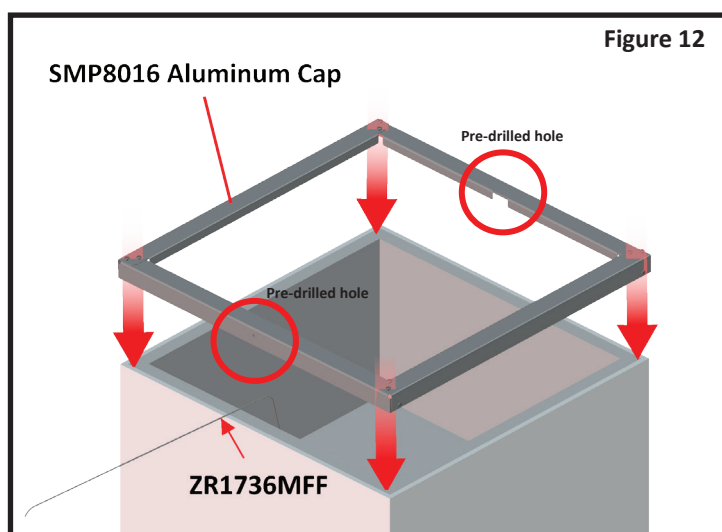

Figure 12
6. Flip the Chimney Flue upside down so the assembled Damper is *toward the top* and the *top of the Chimney Flue is on the flat surface*. **DETERMINE THE LOCATION OF THE 3-32 SS Cable**, as this is the side of the Damper and the Flue to which the Spring and Pulley Assembly will attach. Once you have determined the placement of Spring and Pulley, push the #SMP8016 (pre-assembled) Aluminum Cap onto the bottom end of the Flue. **Make sure the pre-drilled holes in the Aluminum Cap align with the holes where the Pulley assembly will be located**, as shown in Figure 12. This will eliminate later adjustment and the Aluminum Cap will help the Chimney maintain its shape during the assembly. For more detail of the Damper Assembly refer to the previous page.